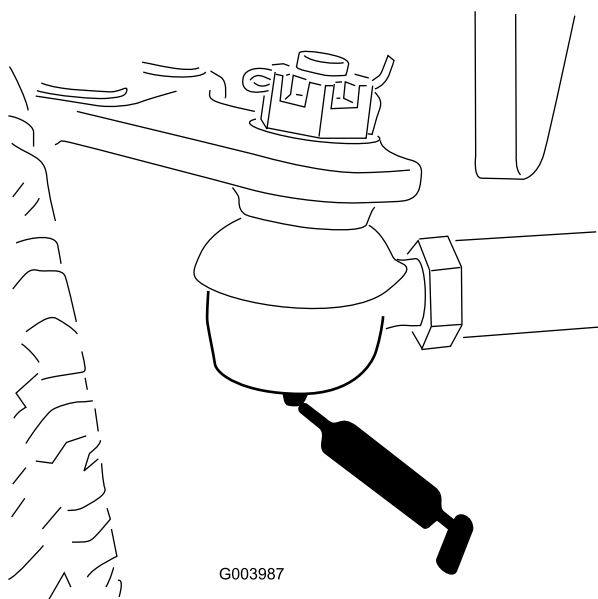

Figure 48
- Rear axle tie rod (2) (Figure 48)